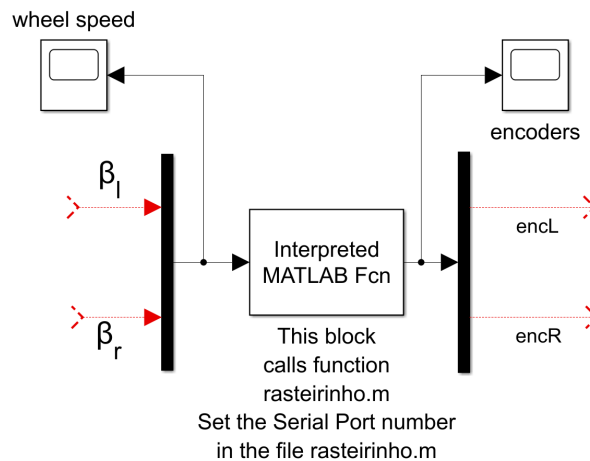

Figure 1.3: Simulink model to command the Rasteirinho (the real one) and read its encoder values.
4. Open the Simulink file `rasta.slx` (see Figure 1.3). This Simulink file makes use of the code in `rasteirinho.m`, so open that file too and set the correct COM port as identified in code line 3.